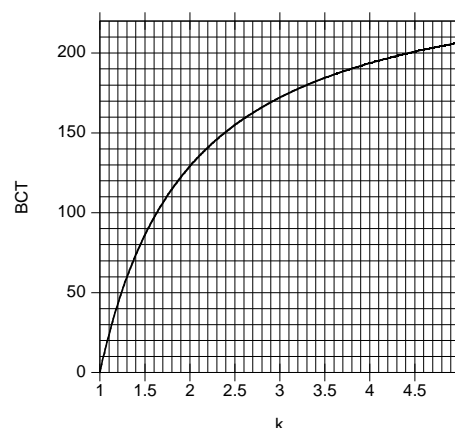

Figure 29: Relation Between the k Ratio and the Optimal BCT to Recover Linearity
Equation (9) is plotted in Figure 29 and Table 15.